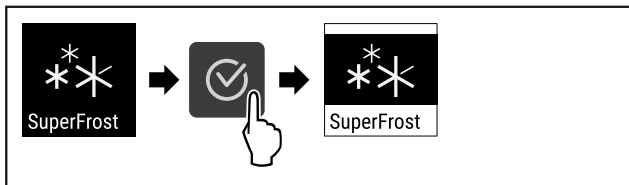

Fig. 92
- ▶ Complete steps (see Fig. 92).